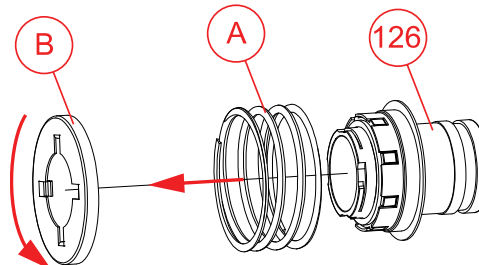

Figure 12-14: Remove Spring
5. Rotate the spring centering washer (B) counter-clockwise about 35 degrees to remove from the sleeve (126). When doing this, apply compressive pressure to the washer (B) as the spring (A) will want to decompress. Remove the spring (A) from the sleeve (126), Figure 12-14.